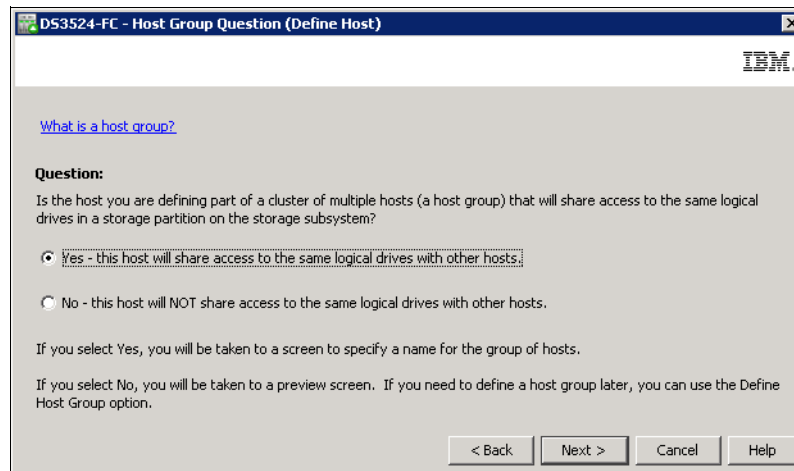

Figure 11-8 Define Host: Specify sharing (clustering)
6. In the next step, you are asked whether the host is a part of a cluster (Figure 11-8). Choose **Yes** if it will be clustered, or **No**, if it will be a stand-alone server. Click **Next** to continue.
2. Specify the host type to be the same as other hosts in the target host group, and select **Yes - this host will share access to** in the window shown in Figure 11-8 on page 282,